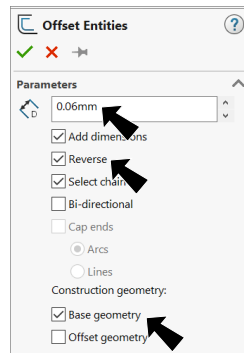

Fig. 10
Step 10. In the Offset Entities Property Manager set: under Parameters, **Fig. 10**